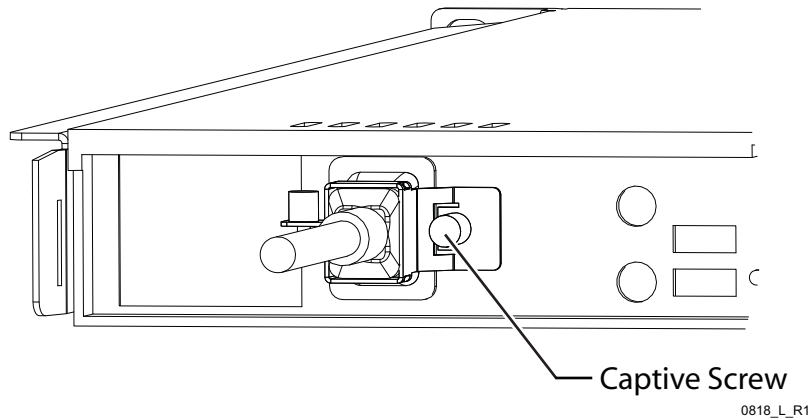

Figure 23-3. Connecting the AC Cord Lock to the Supermicro II Service Processor
- 14** If you are replacing a Supermicro II service processor, secure the AC cord lock to the rear of the SP with a #2 Phillips screwdriver (Figure 23-3).